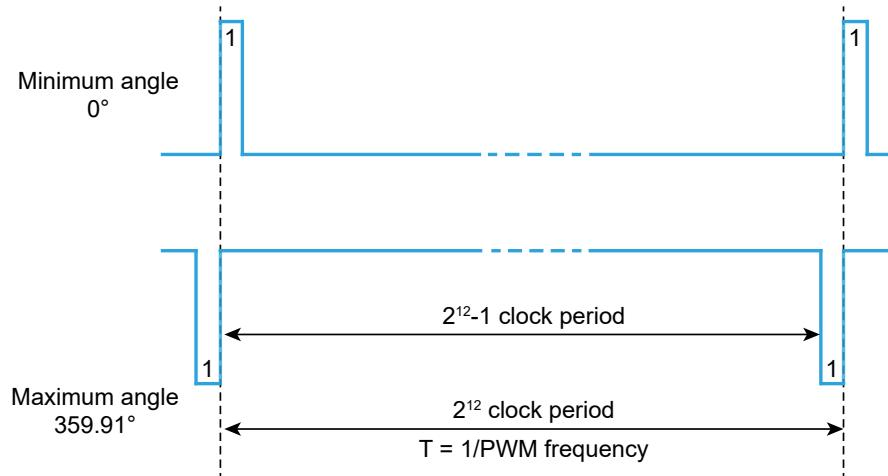

Figure 12. Waveform of PWM mode output signal
AMR3108AP supports pulse width modulation (PWM) output. The duty cycle of PWM is a logic signal which proportional to the magnetic field angle. The duty cycle is limited by the minimum value (1/4096 of the period) and the maximum value (4095/4096 of the period), so the duty cycle varies from 1/4096 to 4095/4096 with the resolution of 12-bits. Figure 12 shows one period of the PWM signal, and the period (T) is $1/F_{PWM}$.